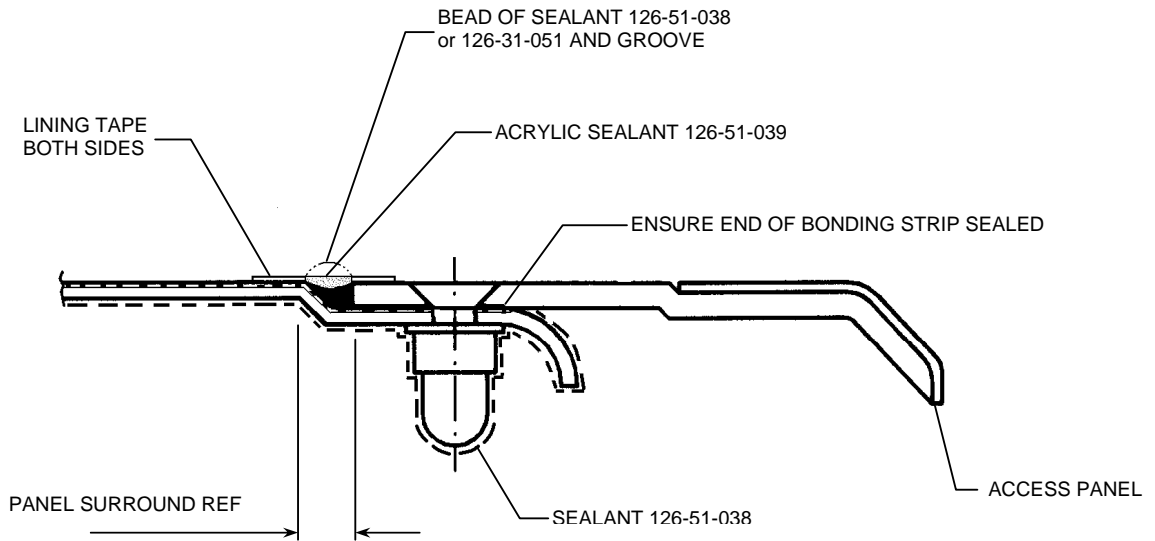

FIGURE 4
- 20.2 Check that the sealant around the anchor nuts is in good order repair by painting with sealant 126-51-038 use 30mm margin around any damage. Ensure end of bonding strip is sealed, refer Figure 4.
- 20.5 Using gloved finger remove bead of sealant (before cured), leaving a curved-bottomed groove. Allow sealant to cure, Figure 4 refers.
20.11 Once dry remove masking and using lining tape, line edge of groove. Ensure tape level. Refer Figure 4.